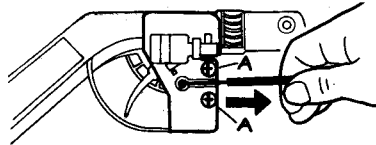
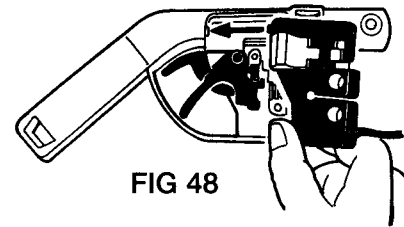

FIG 38
FIG 48
1. Loosen 2 throttle trigger cover screws (A). Pull outer cable for-ward and lift inner cable and lug out of slot in cover (Figs 38 & 39).
1. Remove throttle trigger cover by removing 2 screws (A) shown in Fig 38.
1. Remove 2 screws (A) as shown in Fig 38 and remove cover and all parts. Re-assemble as follows.
4. Hold trigger in place with finger until throttle cover #44069 is fitted (Fig 48). It is then ready for screwing tight (with 2 screws (A) as shown in Fig 38). Ensure throttle cover rear lug (arrowed Fig. 48) engages underside of handle wall.